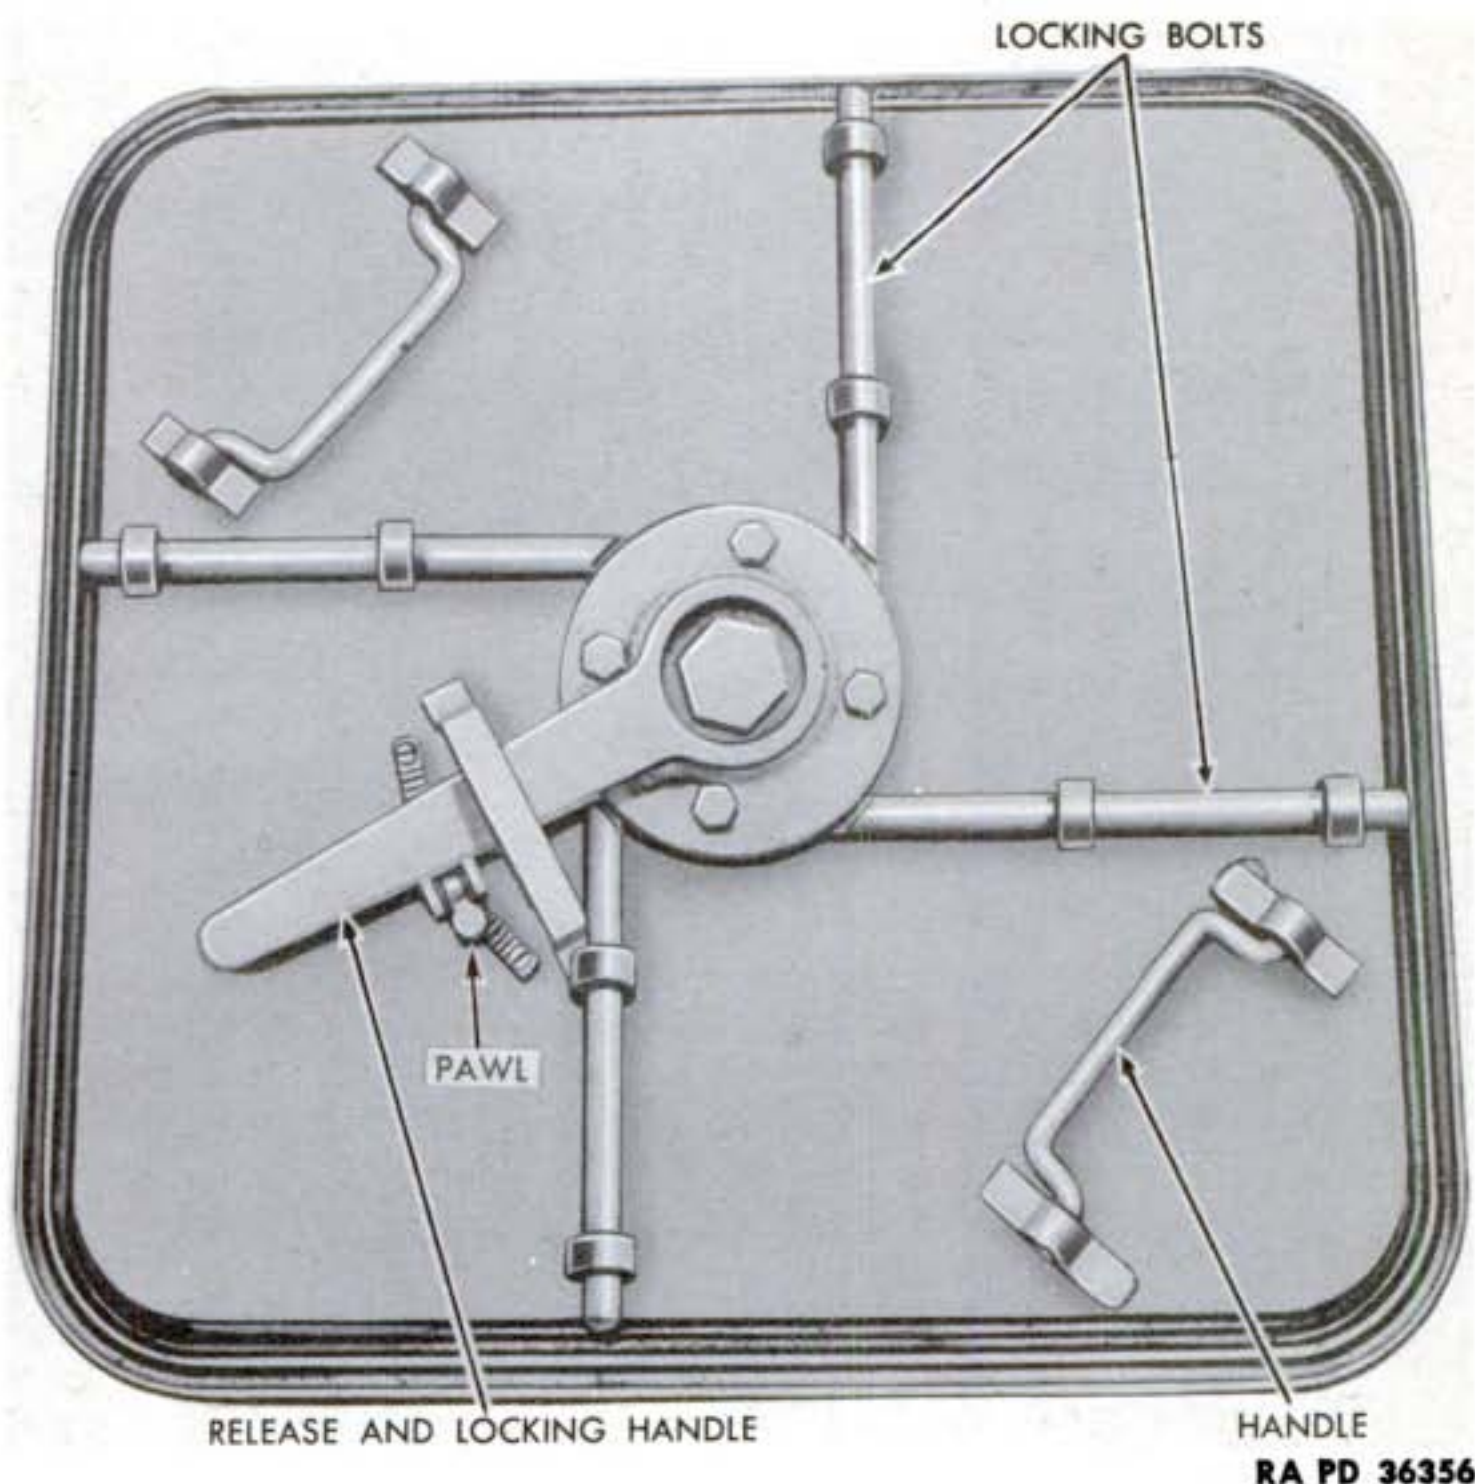

Figure 141—Escape Hatch
a. Description. The escape hatch, covering the opening in the hull floor back of the assistant driver's seat, is held in place by four locking bolts (fig. 141). The bolts are operated by the single release handle (par. 172 a).